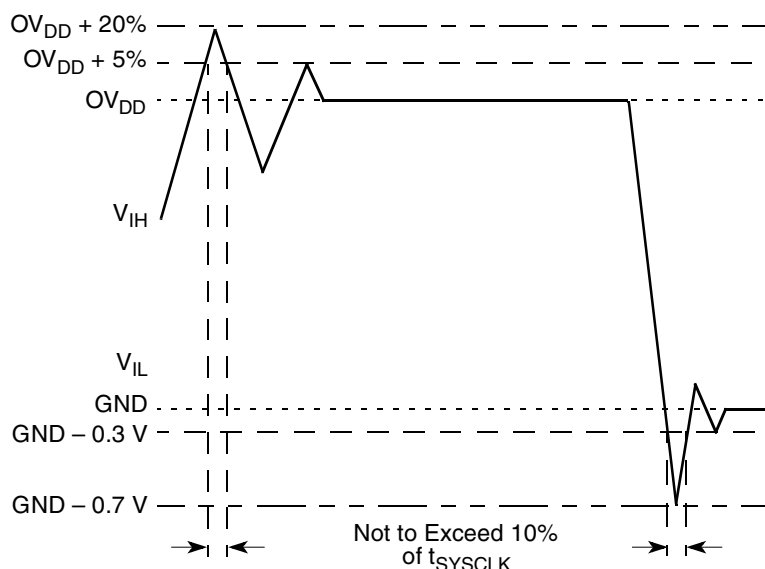

Figure 2. Overshoot/Undershoot Voltage
- V_{in} may overshoot/undershoot to a voltage and for a maximum duration as shown in Figure 2.
Figure 2 shows the undershoot and overshoot voltage on the MPC7447A.